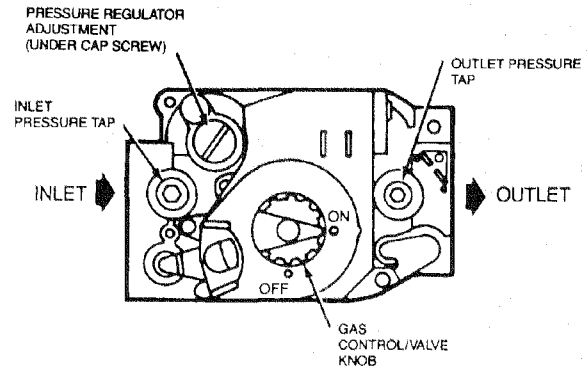
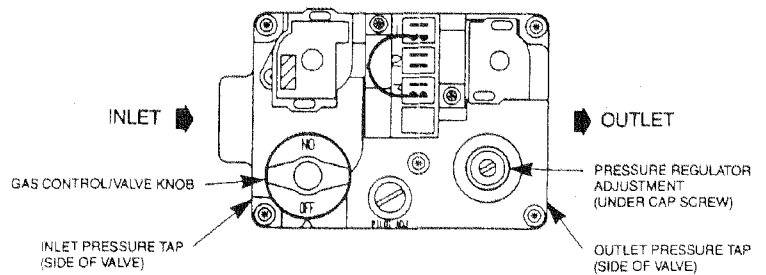
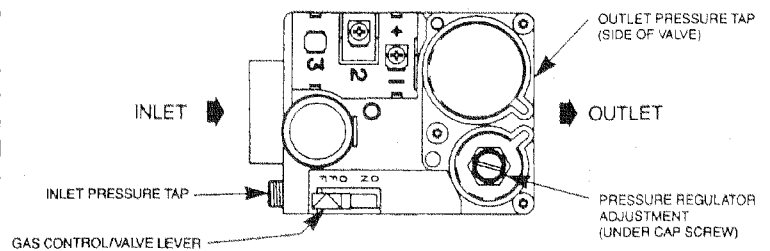

**FIG. 11A — HONEYWELL
**FIG. 11B — WHITE RODGERS
**FIG. 11C — ROBERTSHAW (GRAYSON)
6. Turn the gas control valve clockwise  to the "Off" position for either the White Rodgers 36-E gas valve (Figure 11B) or the Honeywell VR-8205 gas valve (Figure 11A). For the Robertshaw 7200 gas valve, push in and slide the lever to the "Off" position (Figure 11C). Do not force.
7. Wait five (5) minutes to clear out any gas, then smell for gas, including near the floor.
8. If you smell gas following the five (5) minute waiting period in Step 7, follow the instructions on Page 5. If you do not smell gas, then turn the gas control knob counterclockwise  to the "On" position for either the White Rodgers 36-E gas valve (Figure 11B) or the Honeywell VR-8205 gas valve (Figure 11A). For the Robertshaw 7200 gas valve, push in and slide the lever to the "On" position (Figure 11C). Do not force.